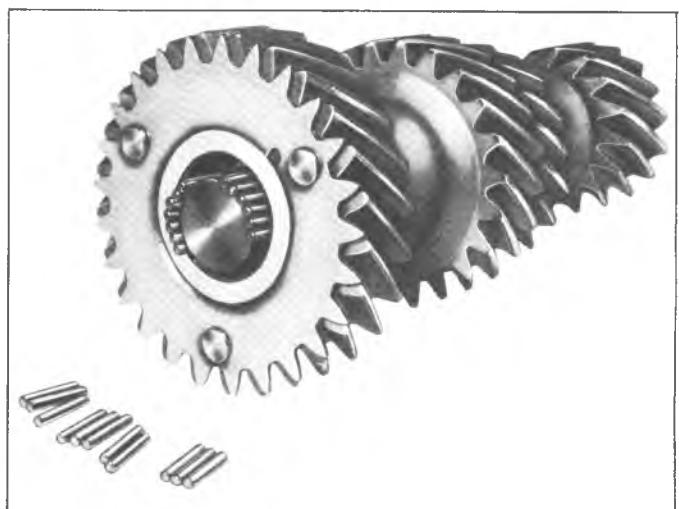

Fig. 15B-Loading Countergear Bearings Using J-22246
2. Using heavy grease to retain the rollers, install a spacer, 28 rollers, a spacer, 28 more rollers, then another spacer. Install in the other end of the countergear, a spacer, 28 rollers, a spacer, 28 more rollers, and another spacer (fig. 15B).